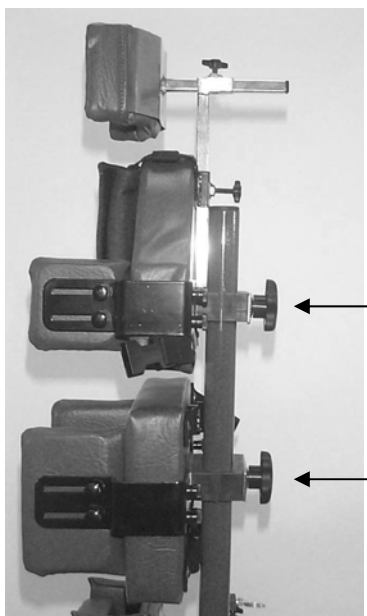
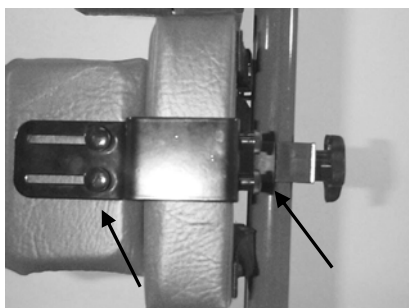

Figure 7
Figure 8
- B. Foot supports are attach to Foot Bar but need to be adjusted using the Ratchet knobs attached to the figure 8 clamps on the Foot Bar adjust to needed position and tighten Ratchet knobs to secure.
***Chest and Hip Support Pads:*** Perform individual adjustments for height up or down on the center mast by loosening the large black adjustment knob on the back of each pad and sliding the pad to the position desired (*Figure 7*). Lateral supports can be adjusted by loosening the small black adjustment knobs on the back of the lateral support bracket. Slide the brackets to a narrower or wider setting securing the child's side-to-side stability and position. Lateral supports can be depth adjusted by loosening the small black adjustment knobs on the side of the bracket and sliding the pad front or back to the desired position (*Figure 8*).